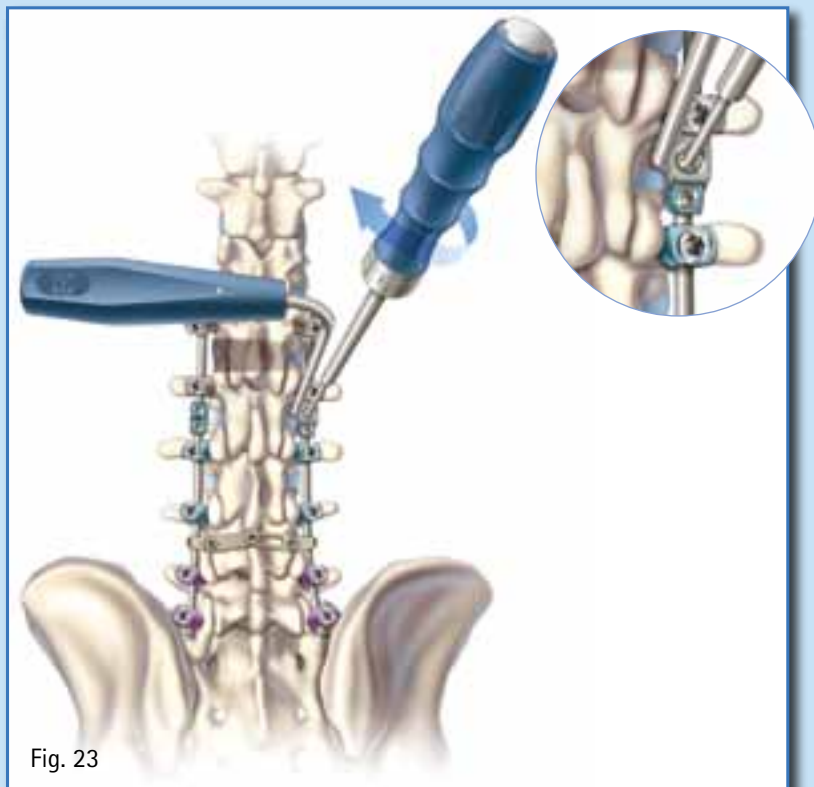

Fig. 23
- Final tighten by applying 4 Nm (36 in/lbs) of torque using the torque wrench screwdriver (FW207R) and the rod-to-rod connector counter torque device (FW495R). (Fig. 23)